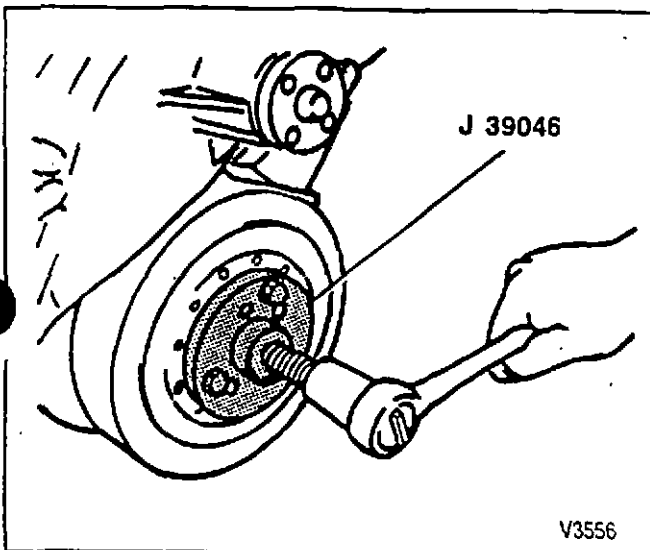

Figure 27—Removing the Torsional Damper
- ↔ Remove or Disconnect (Figure 27)
3. Torsional damper. Use J 39046 (figure 27).